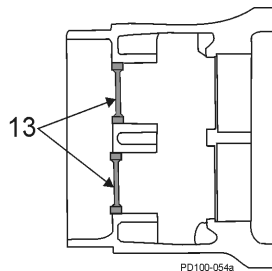

Figure 273 - Remove Rear Oil Seals
10. Press out and discard both rear oil seals in the gear case (Figure 273, item 13).